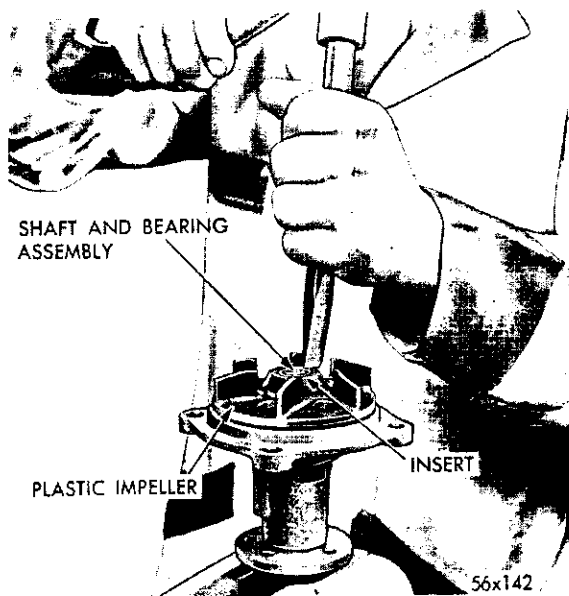

Fig. 4—Removing the Plastic Impeller
(1) Support the pump body on the hub and remove the impeller by breaking the plastic away from the metal inserts, as shown in Figure 4.
(2) Remove the impeller metal insert using Tool C-3476.